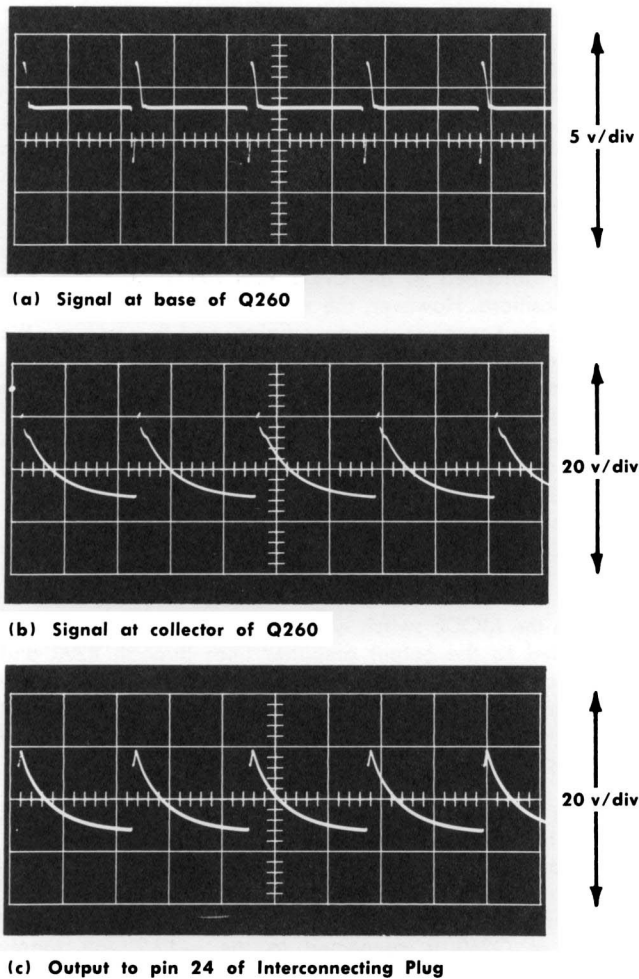

Fig. 4-3. Signals in blocking oscillator circuit. Oscilloscope ac coupled, sweep rate $2 \mu\text{sec/div}$.
In the CHOP. and ALTER. positions of the MODE switch, Q260 (the switching blocking oscillator) is energized, supplying pulses to the switching multivibrator. Fig. 4-3 shows waveforms seen in the blocking oscillator with the MODE switch in the CHOP. position. In the ALTER. mode, the emitter of Q260 is connected to the -12.2 volt supply through R260. The collector is also connected to the -12.2 volt supply through the emitter winding of blocking oscillator (BO) transformer T263. When a positive pulse is fed from the time-base plug-in through terminal 3 of the interconnecting plug, the emitter voltage rises. The transistor conducts, drawing current through the collector winding of Blocking Oscillator transformer T263. The collector current passing through the emitter circuit and R260 raises the voltage at the emitter, keeping Q260 in conduction. However, the current rise also induces a voltage in the emitter winding of the Blocking Oscillator transformer T263, driving Q260 further into conduction. A normal blocking oscillator cycle occurs, with the backswing cutting the transistor off. The emitter circuit is damped so the transistor is not turned on again until another sync pulse is received.